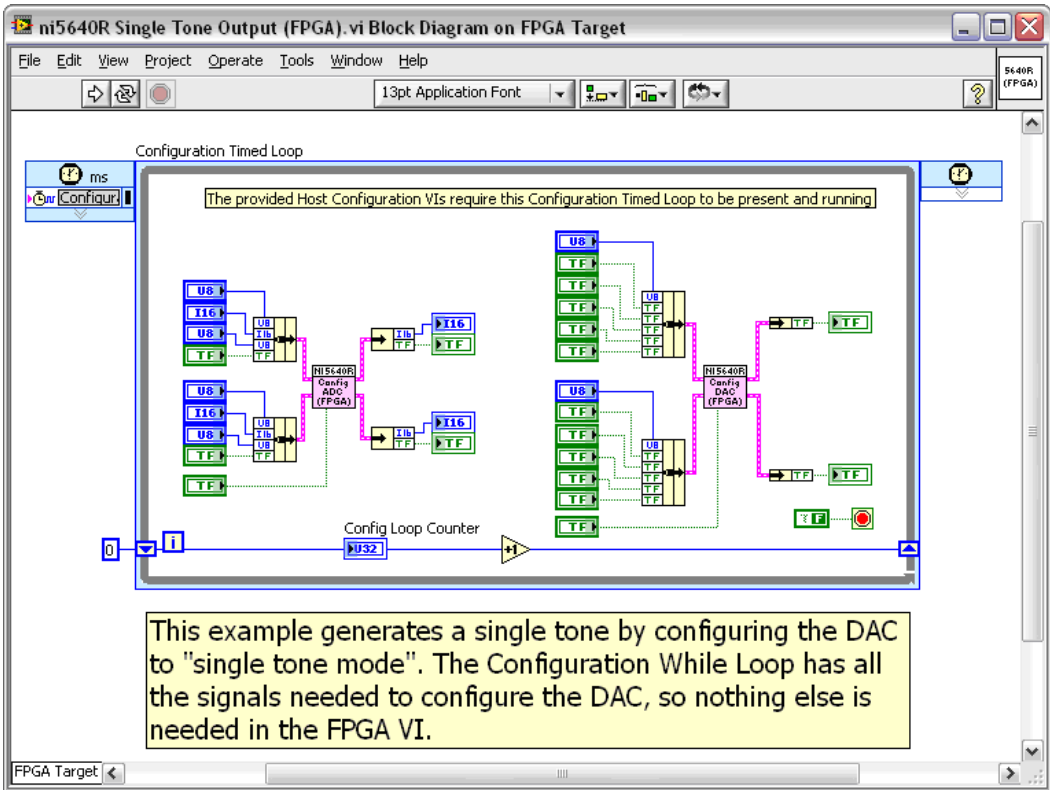

Figure 7. ni5640R Single Tone Output (FPGA) VI Block Diagram
1. Open the `ni5640R Single Tone Output (FPGA) VI` from the **Project Explorer** window. The target on which the VI runs (`My Computer` or `FPGA Target`), appears in the lower left corner of the VI as shown in Figure 7.
- Open the block diagram and locate the Configuration Timed Loop. As shown in Figure 7, there are two subVIs inside this timed loop: the ni5640R Template Config ADC (FPGA) VI and the ni5640R Template Config DAC (FPGA) VI.
Notice that the Configuration Timed Loop is clocked by the Configuration_Clk (shown in the upper left corner of the loop in Figure 7). The Configuration_Clk is an onboard 20 MHz free-running oscillator that is not synchronized to the VCXO and runs independently of other clocks. Refer to the *Clocking Block Diagram* section for more information about the Configuration_Clk.